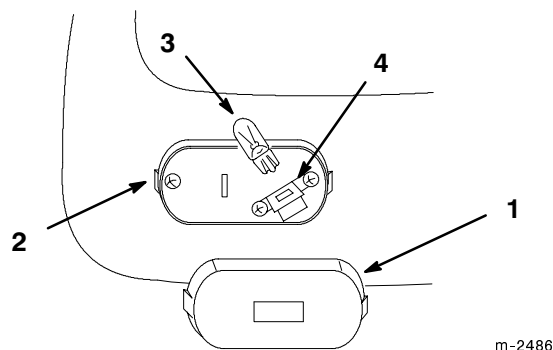

Figure 37
2. Inserting a screwdriver into slot and twist to remove lens (Fig. 37).
1. Align the bulb base with socket and push into position (Fig. 37).
2. Align and snap the lens onto the base (Fig. 37).